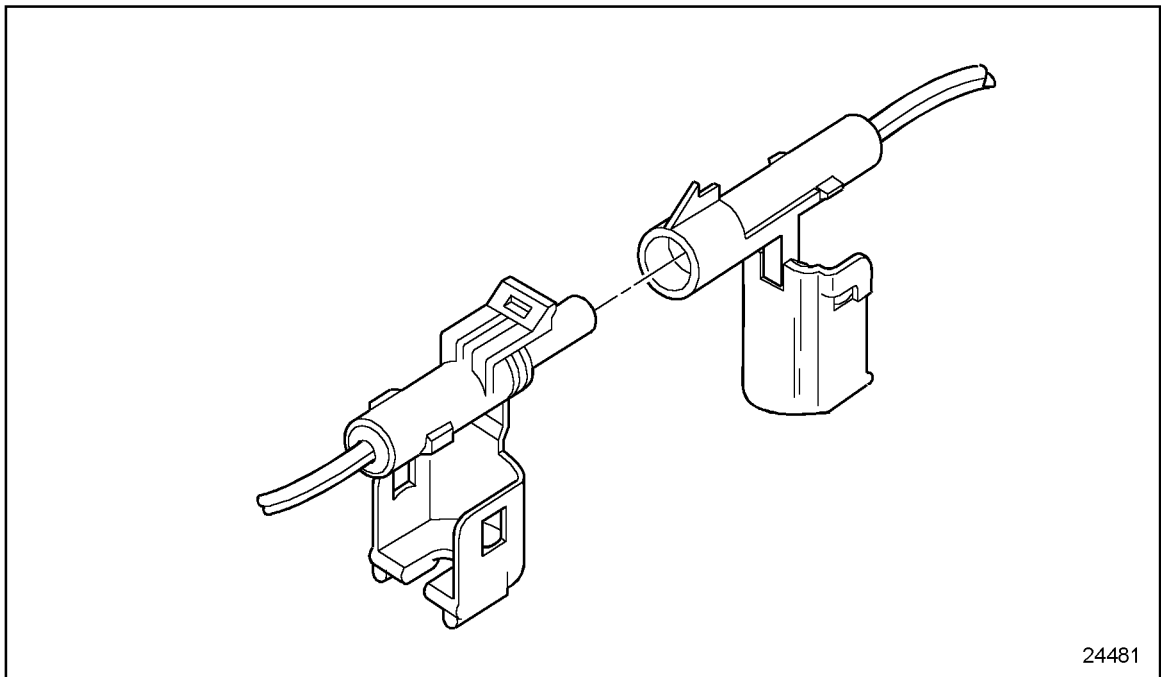

Figure 8-10 **Unlatched Secondary Lock**
2. Unlatch and open the secondary lock on the connector. See Figure 8-10.